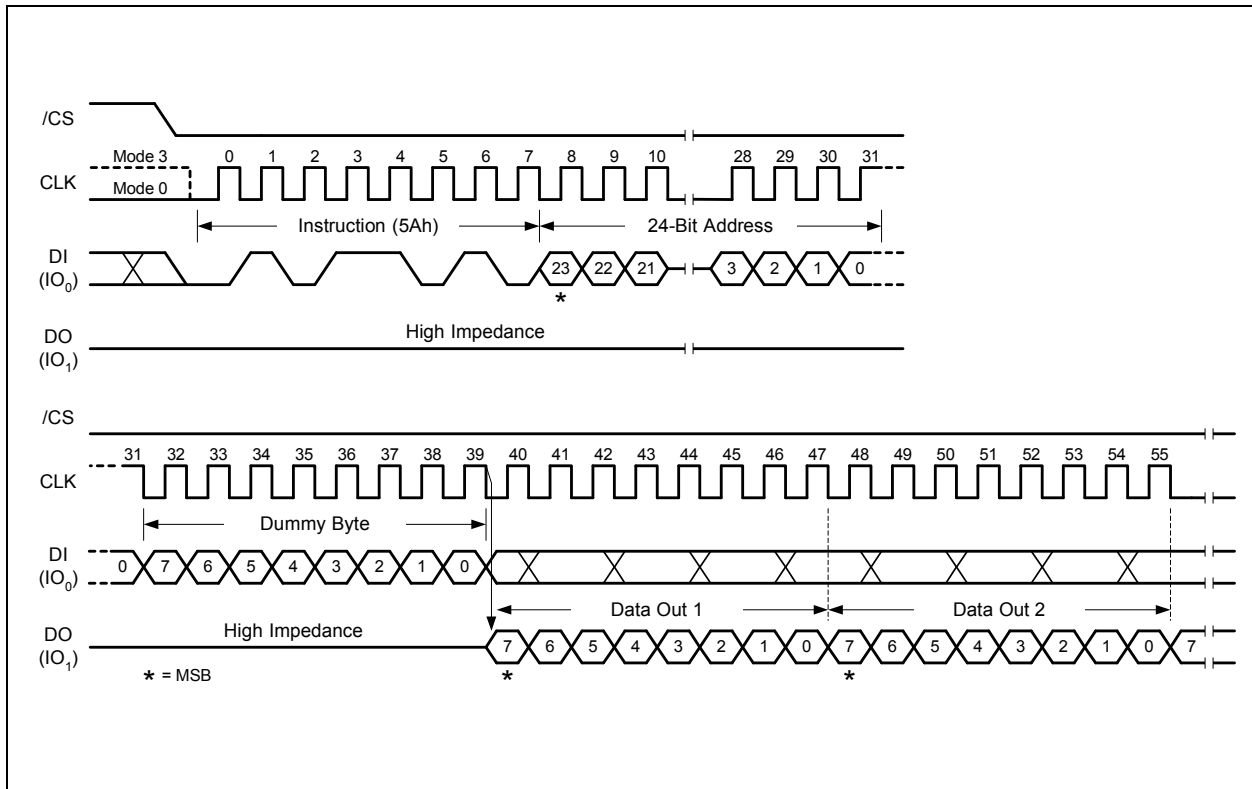

Figure 34. Read SFDP Register Instruction Sequence Diagram (SPI Mode only)
The Read SFDP instruction is initiated by driving the /CS pin low and shifting the instruction code “5Ah” followed by a 24-bit address (A23-A0)(1) into the DI pin. Eight “dummy” clocks are also required before the SFDP register contents are shifted out on the falling edge of the 40th CLK with most significant bit (MSB) first as shown in Figure 34. For SFDP register values and descriptions, refer to the following SFDP Definition table.